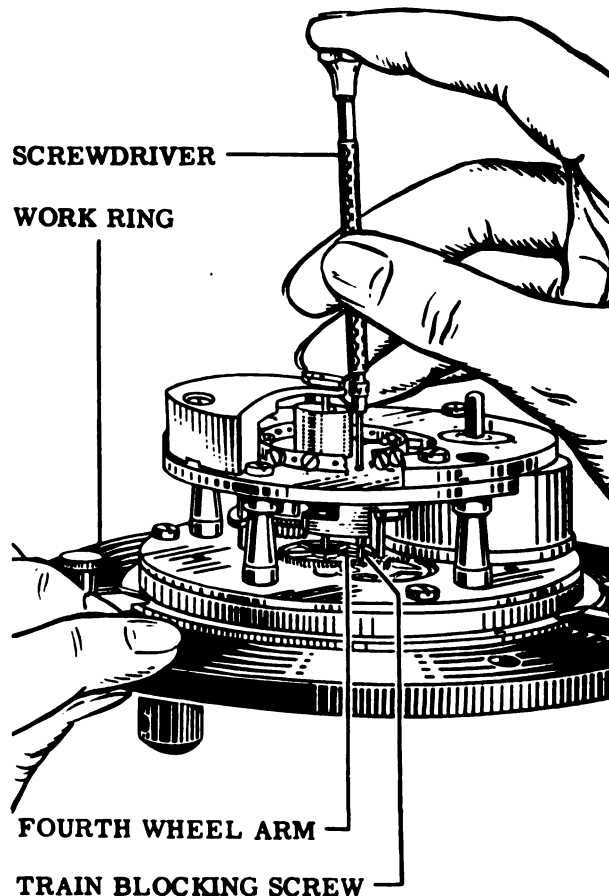

Figure 16
5. Carefully lower the train blocking screw, using Tool No. 89, making sure that this screw does not bear upon the top of one of the arms of the fourth wheel. See Fig. 16. If early model chronometer, without train blocking screw, place wire loop around rim of fourth wheel and nearest pillar. The use of this wire loop is plainly shown in Section IX. See Fig. 100.